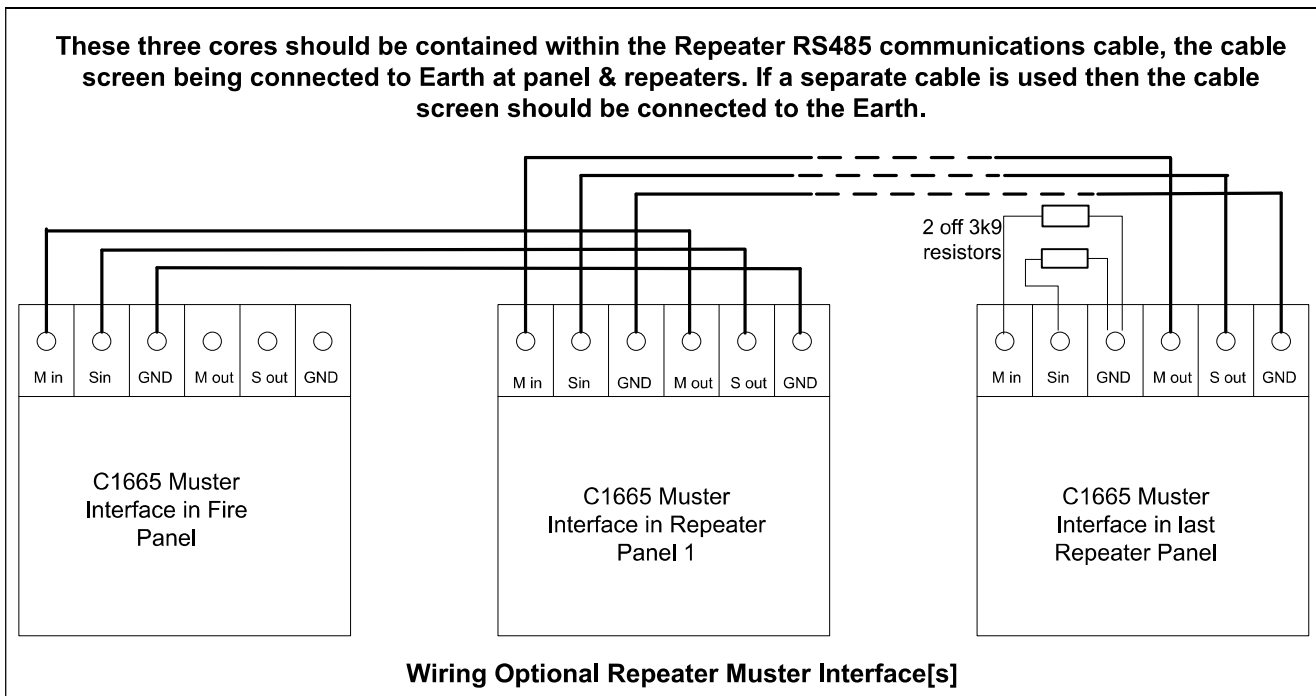

Figure 5— Muster Interface Wiring Diagram
5. Connect the field cable as shown in Figure 5.
6. Connect 2 off 3k9 monitoring resistors to the C1665 in the last repeater as shown in Figure 5. [The resistors are supplied in the Muster Interface fixing kit].